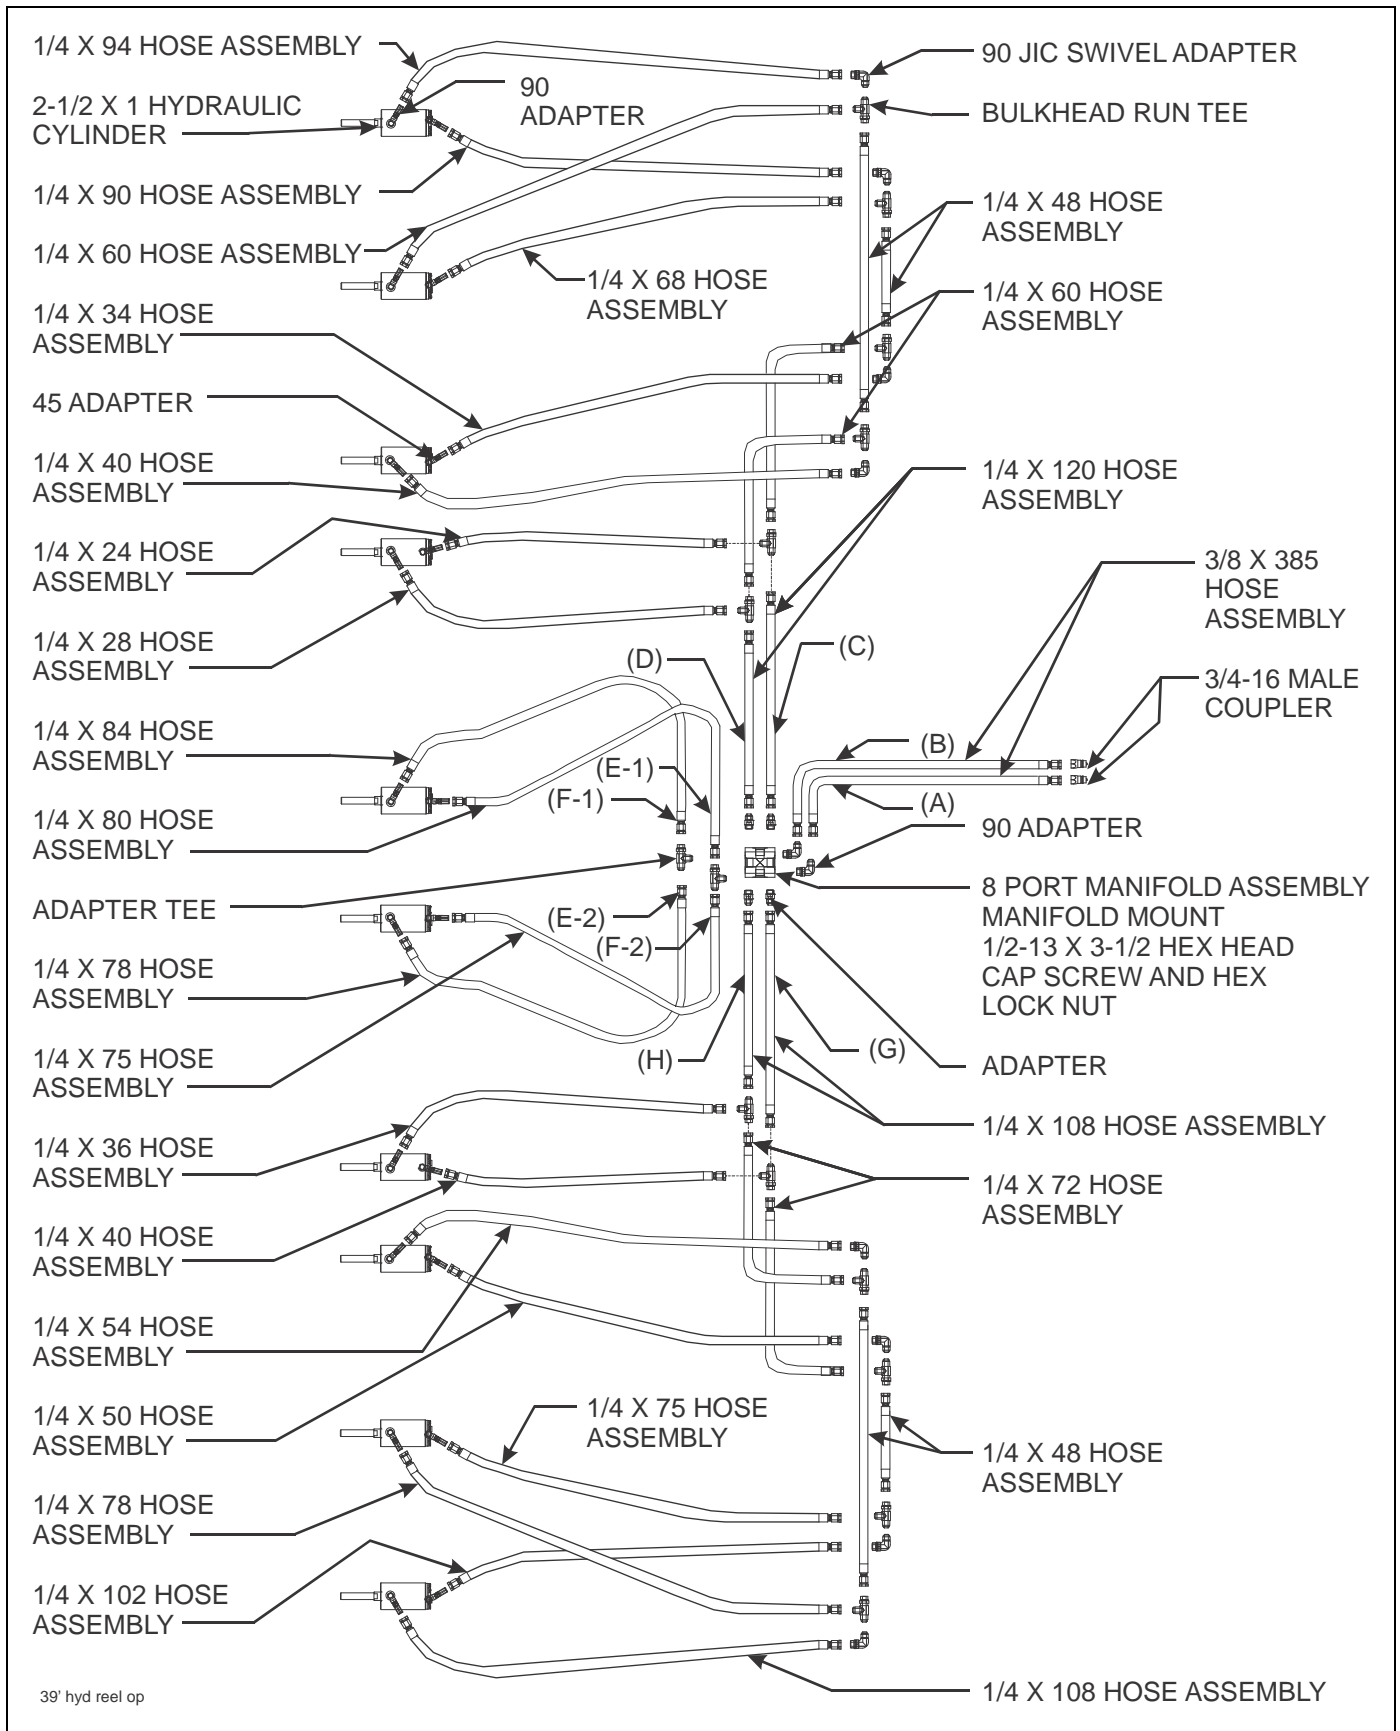
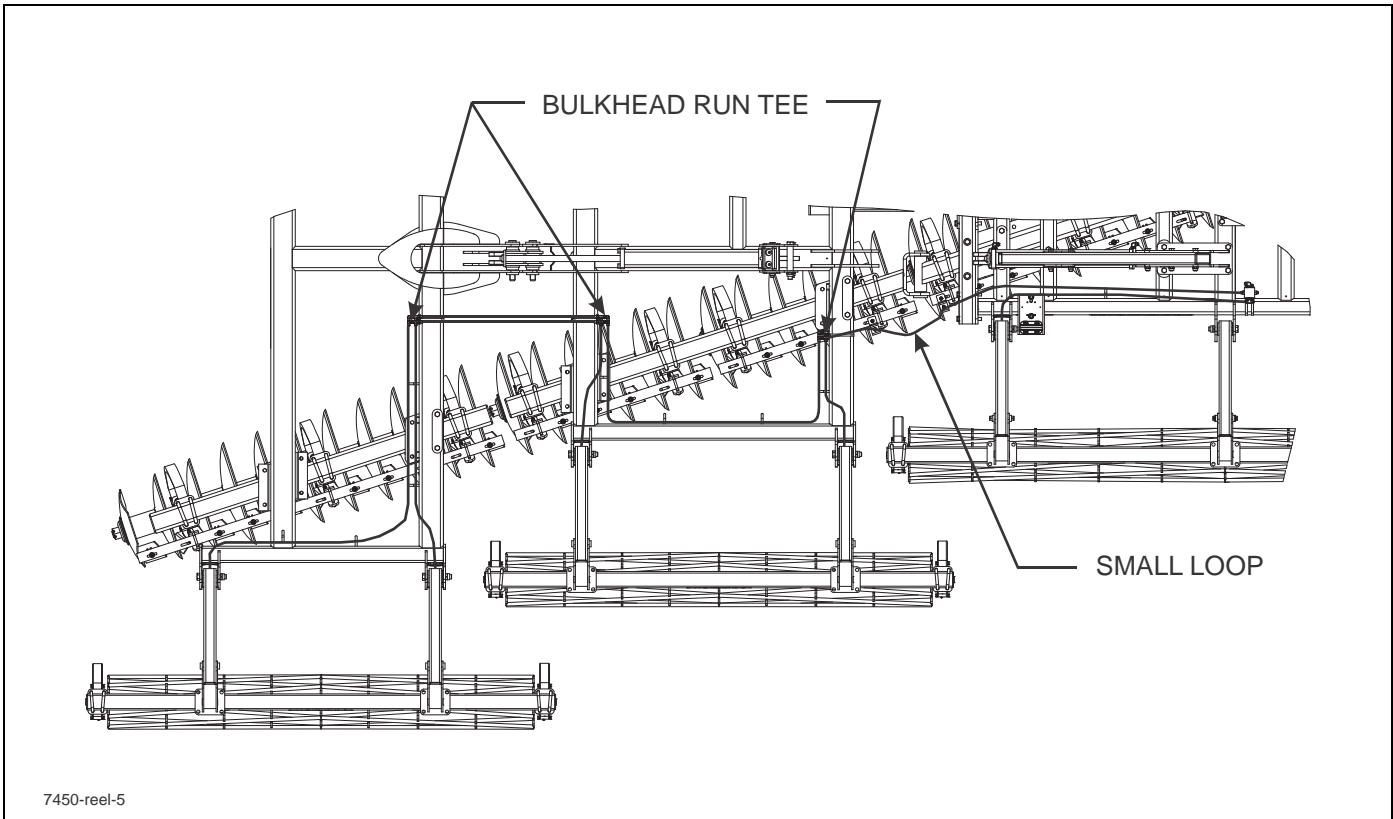

Figure 3-26: Finishing Reel Hydraulic Installation (39' Model)
Figure 3-34: Finishing Conditioner Reel Installation Hydraulic Hose Placement (Left Half)
Refer to **Figure 3-26** for 7450-39' condition reel hydraulic diagram.
8. Install fittings into manifold according to **Figures 3-26 through 3-28**.
11. Install hoses per **Figures 3-26 through 3-28**. Hose routing to follow **Figures 3-34 and 3-35**.